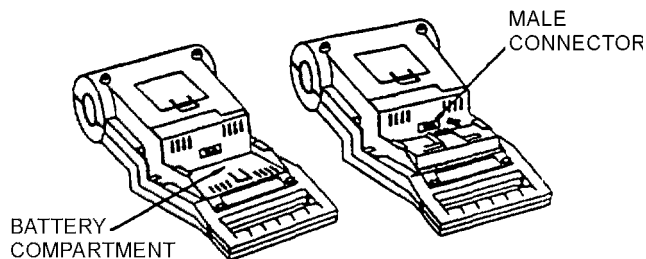

Figure 12. Battery Installation
- Place the LS2000 upside down on a stable surface with the handle toward the operator to expose the battery compartment (Figure 12).